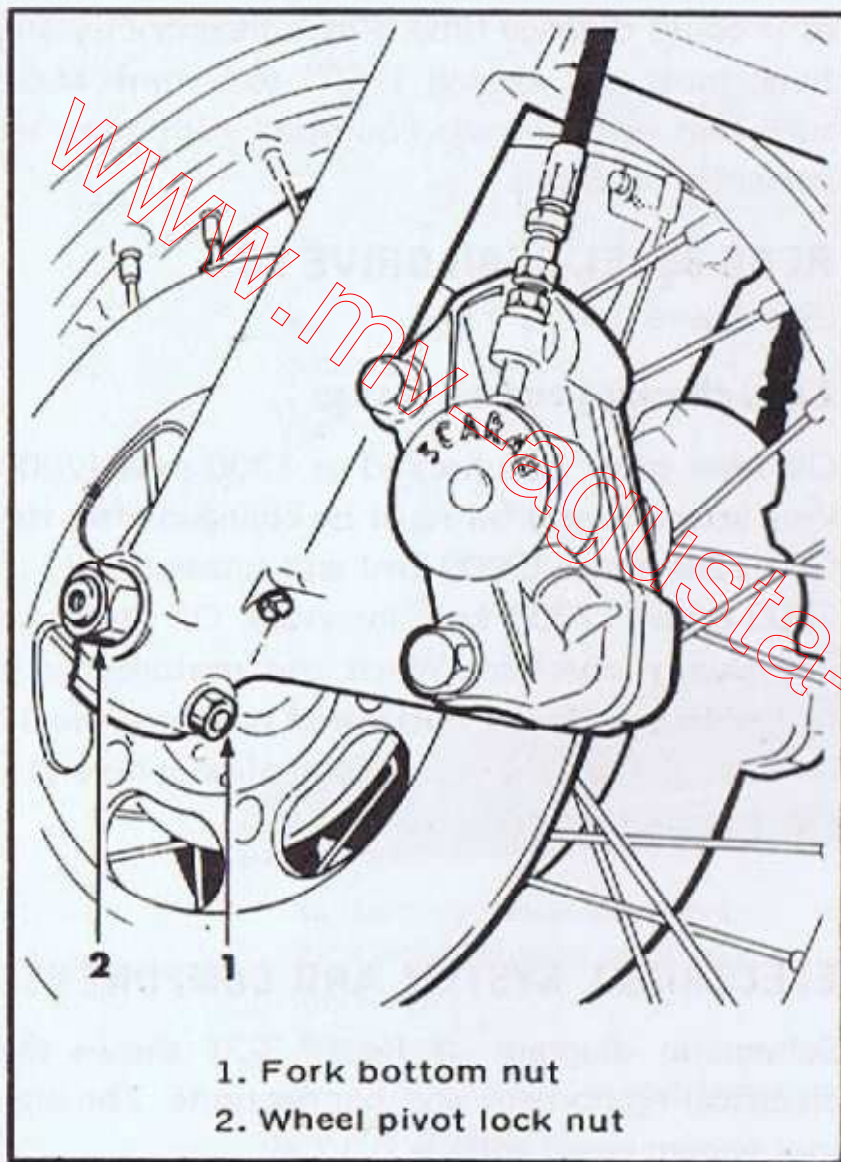

Figure 3-15. Removal of front wheel
(See figure 3-15)
c. Loosen both nuts (1, figure 3-15) at the bottom of each fork leg.
d. Remove nut (2) and wheel pivot.